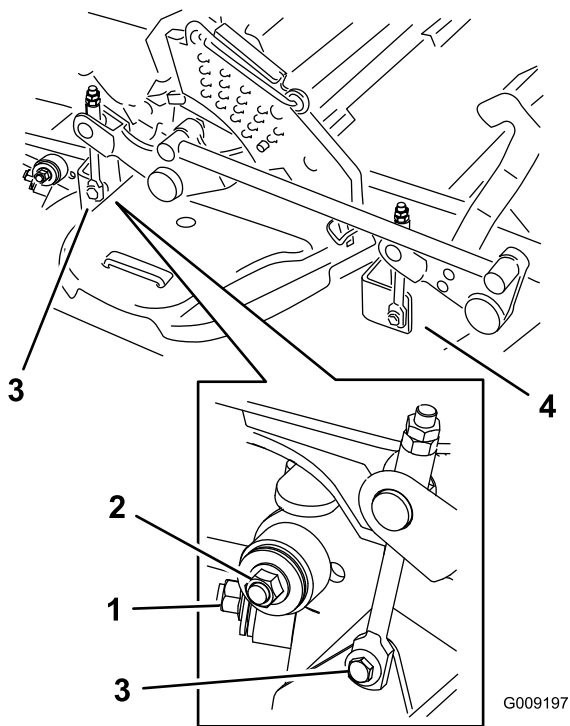

Figure 104
8. Remove and retain the hardware on both sides of the deck as shown in Figure 104.